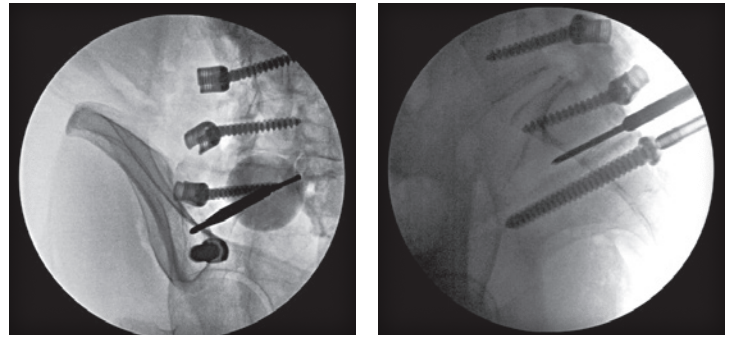

Figure 7
- ▶ Advance the pedicle awl to create channel parallel and cephalad to that of the S2AI screw using both the Lateral and Teardrop Views (**Fig. 7**).